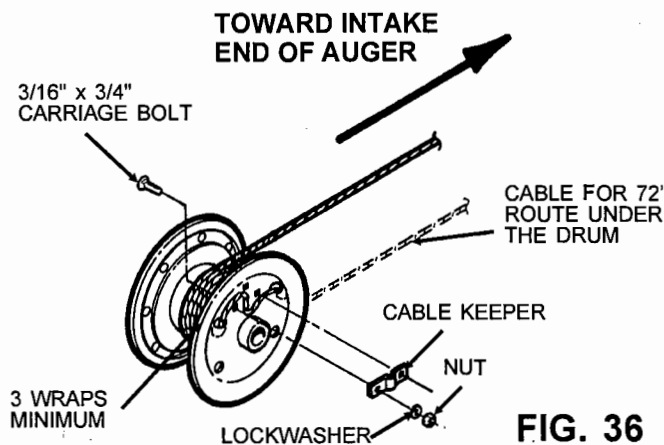

FIG. 36
Step 34. Attach 1/4" lift cable to winch drum so cable will wrap over winch drum on 32', 42', 52' and 62' models and under winch drum for 72' models when turning handle in a clockwise direction. See Fig. 36. From inside of drum, insert the cable through one round hole in the drum side, until it extends 3 cm past the two square holes. Next clamp the cable to the outside of the drum with the cable keeper, using two 3/16" x 3/4" carriage bolts, lock washers and nuts. Be sure that the carriage bolt heads are on the inside of the drum.